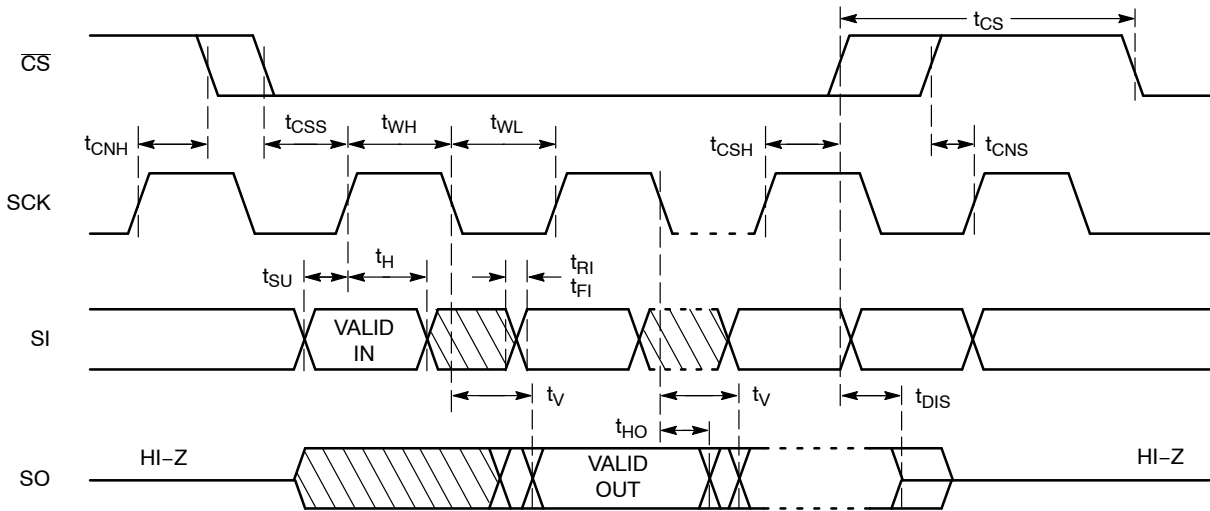

Figure 2. Synchronous Data Timing
7. **All Chip Select (CS) timing parameters are defined relative to the positive clock edge (Figure 2). t_{CSH} timing specification is valid for die revision C and higher. The die revision C is identified by letter "C" or a dedicated marking code on top of the package. For previous product revision (Rev. B) the t_{CSH} is defined relative to the negative clock edge (please refer to data sheet Doc. No. MD-1122 Rev. C).**
After a high to low transition on the CS input pin, the CAT25080/160 will accept any one of the six instruction op-codes listed in Table 7 and will ignore all other possible 8-bit combinations. The communication protocol follows the timing from Figure 2.